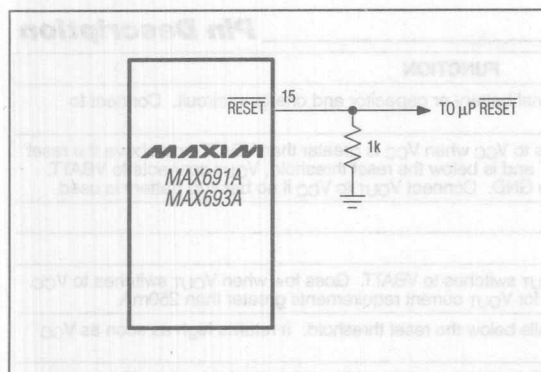

Figure 1. Adding an external pull-down resistor ensures $\overline{\text{RESET}}$ is valid with V_{CC} down to GND.
battery is used, RESET output is guaranteed to be valid down to VCC = 1V, and an external 10kΩ pull-down resistor on RESET insures that it will be valid with VCC down to GND (Figure 1). As VCC goes below 1V, the gate drive to the RESET output switch reduces accordingly, increasing the RDS(ON) and the saturation voltage. The 10kΩ pull-down resistor insures the parallel combination of switch plus resistor is around 10kΩ and the output saturation voltage is below 0.4V while sinking 40μA. When using a 10kΩ external pull-down resistor, the high state for RESET output with VCC = 4.75V will be 4.5V typ. For battery voltages ≥ 2V connected to VBATT, RESET and RESET remain valid for VCC from 0V to 5.5V.